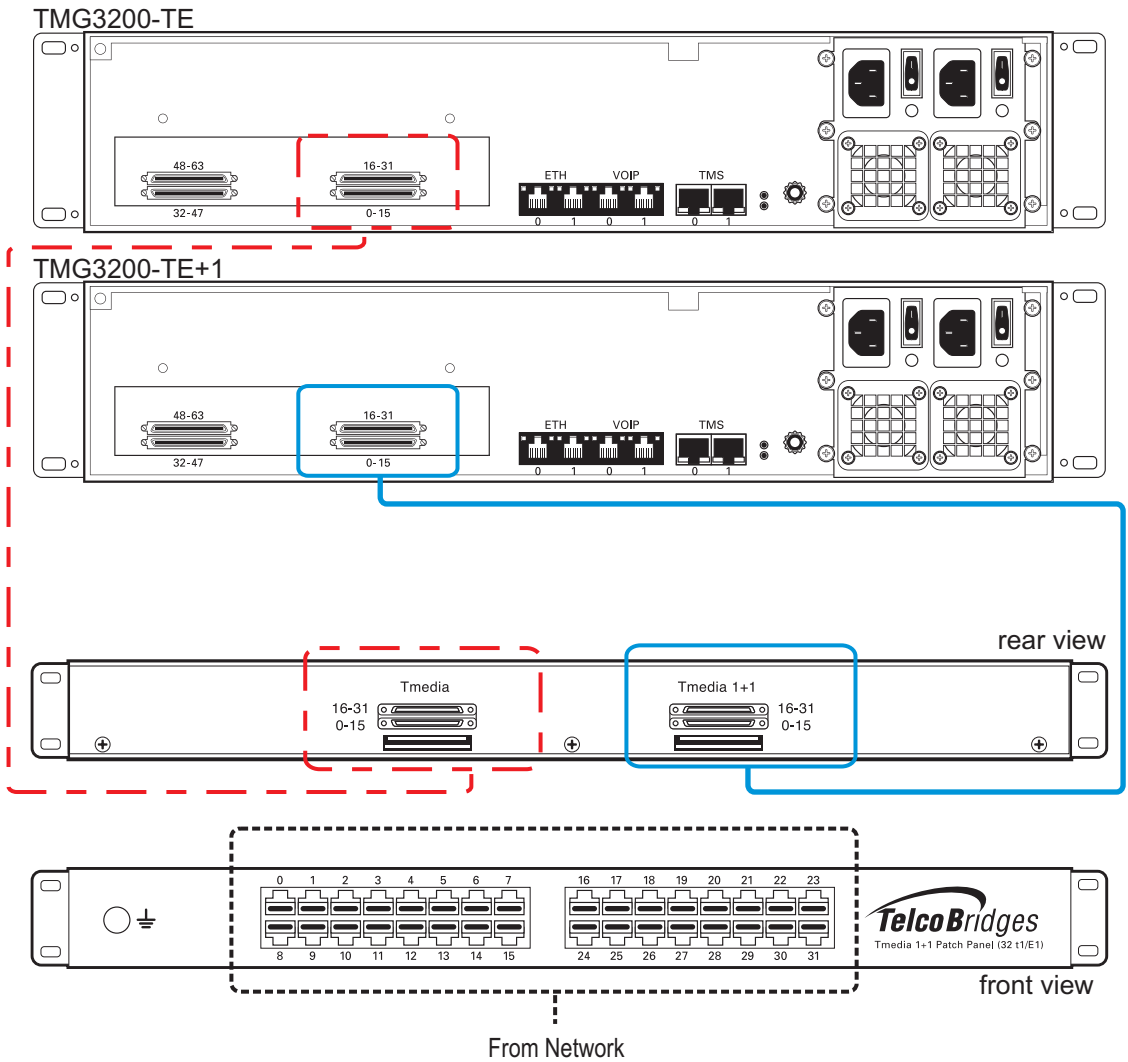

Figure 2.14 TMG3200-TE and TMG3200-TE+1 connecting to the TDM 1+1 32/T1/E1 1+1 patch panel
1. Connect each T1/E1 line from the network section of the 1+1 patch panel to the remote equipment. See figure 2.14 on page 37.